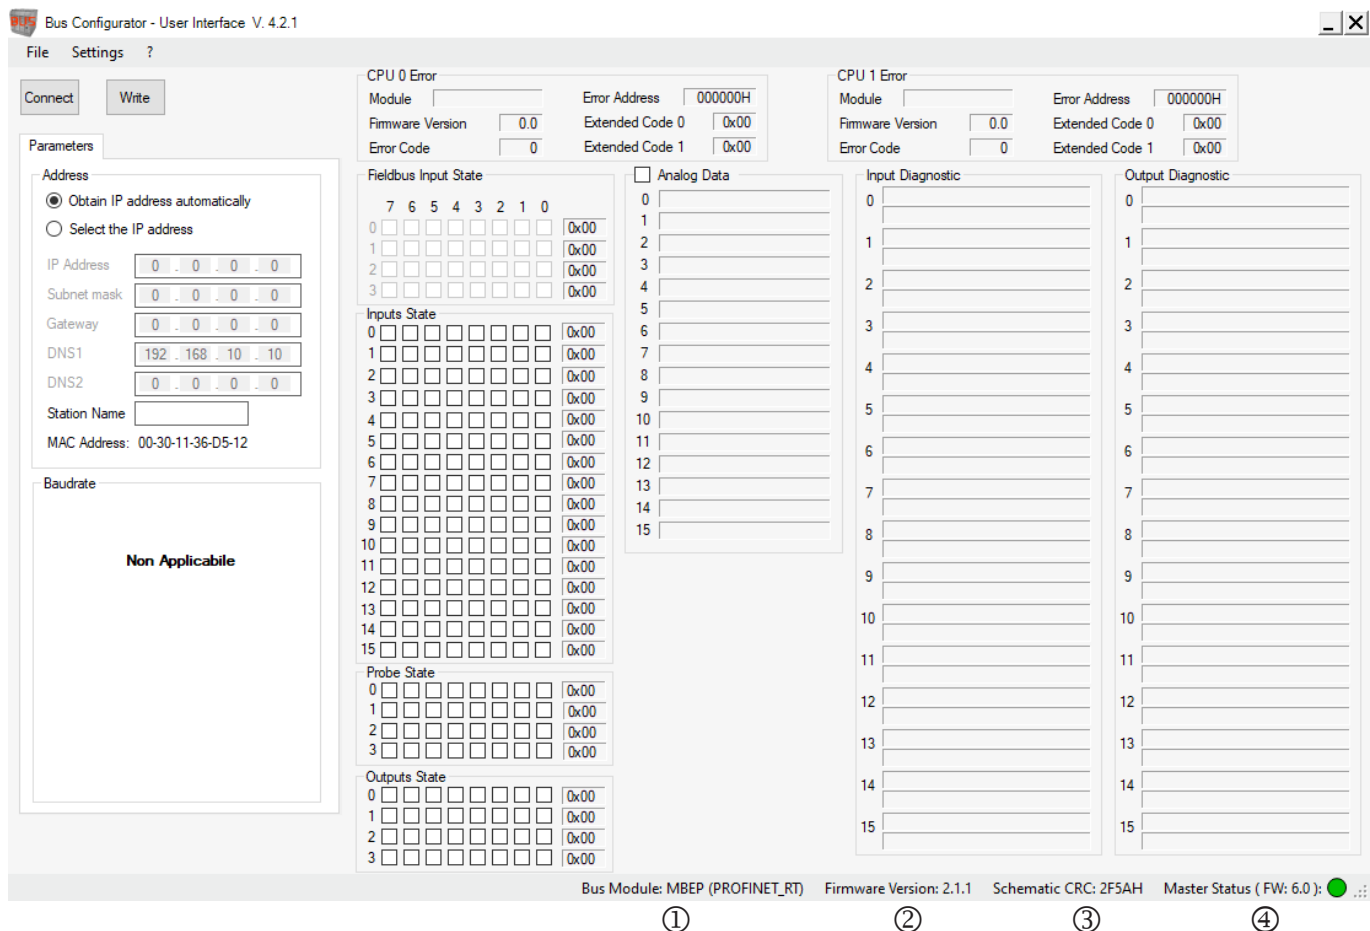

Fig. 12: Bus Configurator – User Interface, Bus Configurator information
The program detects that a fieldbus module is connected (Fig. 12). The status bar shows the fieldbus model ①, the firmware version of the fieldbus module ②, the schematic CRC ③ and the status and firmware version of the basic module ④:
Once the connection to the fieldbus module has been established and the fieldbus module has been detected, the parameters can be configured (see Fig. 12). Transfer the configuration data to the module by clicking the **Write** button.